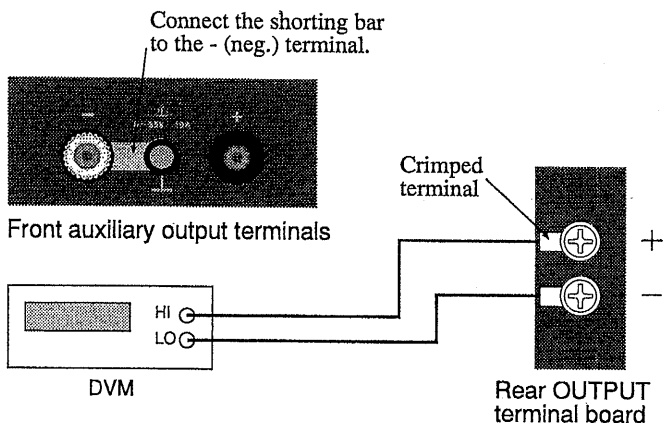

Fig. 5-1A Connection for voltage system calibration
- ① Turn off the OUTPUT switch.
- ② Turn off the POWER switch.
- ③ Check that the SENS switch is turned off.
- ④ Connect a DVM as shown in Fig. 5-1A.